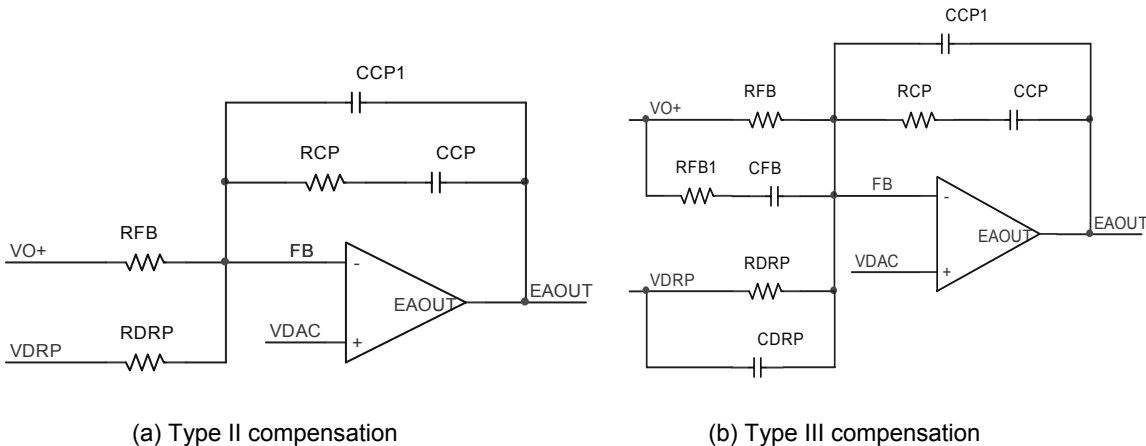

Figure 8. Voltage loop compensation network
Resistors RFB and RDRP are chosen according to Equations (15) and (16), and the selection of compensation types depends on the output capacitors used in the converter. For the applications using Electrolytic, Polymer or AL-Polymer capacitors and running at lower frequency, type II compensation shown in Figure 8(a) is usually enough. While for the applications using only ceramic capacitors and running at higher frequency, type III compensation shown in Figure 8(b) is preferred.
For applications where AVP is not required, the compensation is the same as for the regular voltage mode control. For converter using Polymer, AL-Polymer, and ceramic capacitors, which have much higher ESR zero frequency, type III compensation is required as shown in Figure 8(b) with RDRP and CDRP removed.